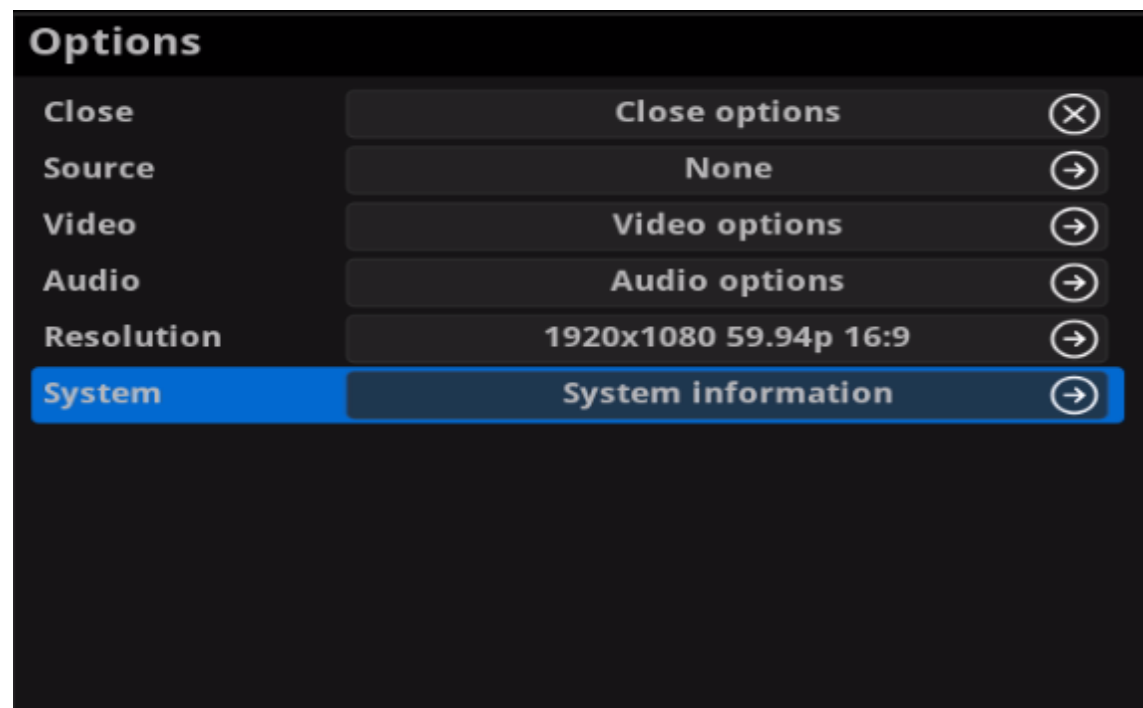

Figure1. Select System in Options menu
- Step 1** Connect your decoder via Ethernet, power it up and connect a presentation device as shown in the Figure1. Connections.